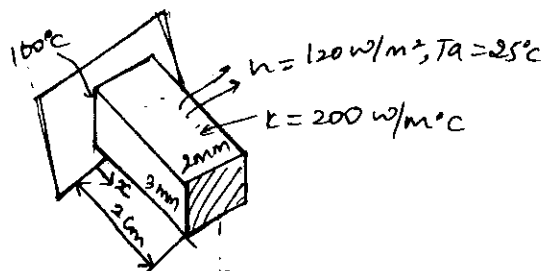

Fig.Q.4(b)
- b. Determine the temperature distribution in the Fig.Q.4(b), with respect to time by Crank Nicolson method, assuming initial temperature of the fin equal to the atmospheric temperature 25°C , if the bar temperature is suddenly raised to a temperature 100°C and maintained at that value. Take a heat capacity of $2.42 \times 10^6 \text{ W/m}^3\text{C}$ and time step of 0.1sec. (15 Marks)